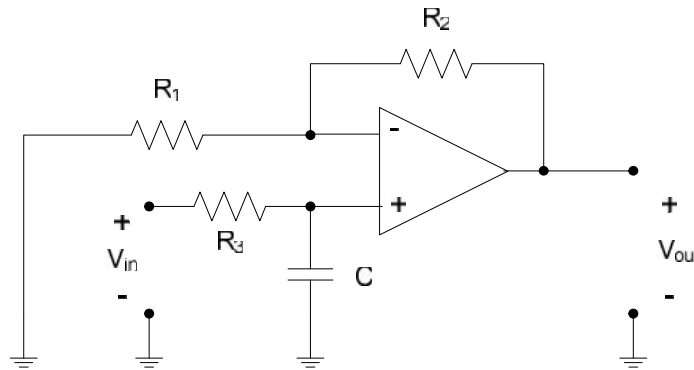
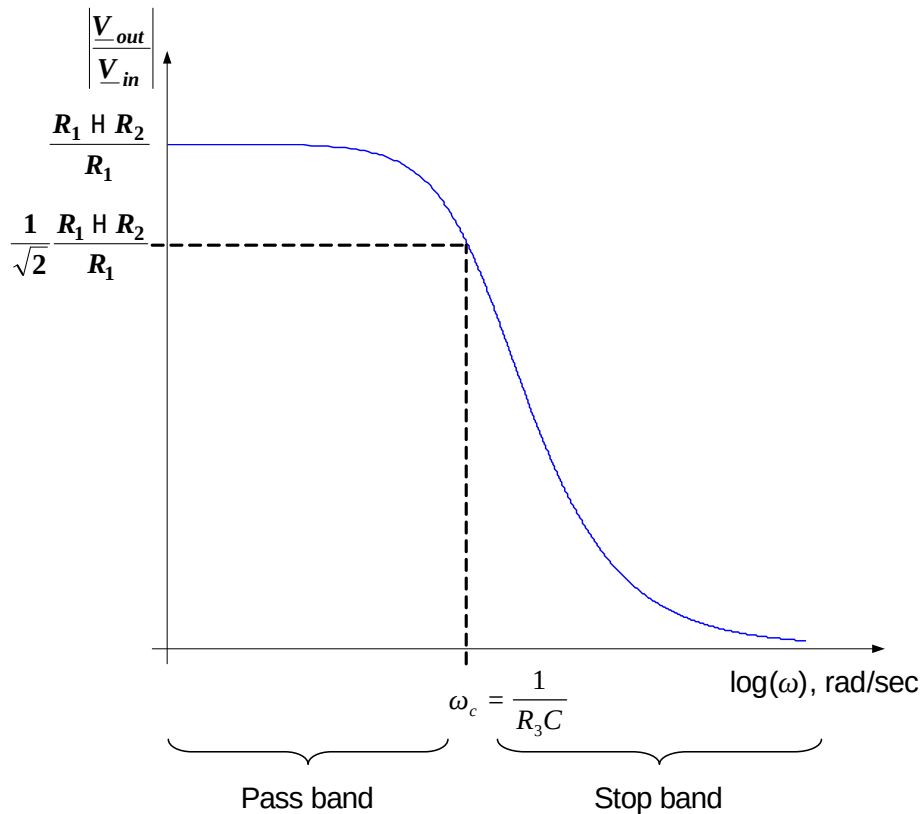

Figure 2. Signal conditioning circuit.
Figure 3. Signal conditioning circuit amplitude response.
We will implement the above operations using the circuit shown in Figure 2. The frequency response of the circuit shown in Figure 2 is:
The amplitude response of the overall signal conditioning circuit of Figure 2 is shown in Figure 3. The low frequency gain (as $\omega \rightarrow 0$) of the circuit is $\frac{R_1 + R_2}{R_1}$, and the filter's output goes to zero at high frequencies (as $\omega \rightarrow \infty$). The *cutoff frequency* of the circuit indicates at what frequency the filter's output begins to decrease rapidly; for our circuit, the cutoff frequency is $\omega_c = 1/R_3 C$. The DC gain can be used to amplify the output of the piezoelectric sensor in the pass band, while the stop band can be used to eliminate the noise in the signal at high frequencies. (Signals entering the circuit with frequencies below the cutoff frequency – the pass band – are amplified; signals entering the circuit with frequencies above the cutoff frequency – the stop band – are attenuated.)
- ANALYSIS** a. Using equation (1) as your starting point, show that the amplitude response of the circuit of Figure 2 is as provided in equation (2)
- ANALYSIS** b. Using equation (1) as your starting point, determine the phase response of the circuit of Figure (3)
- ANALYSIS** c. Determine the cutoff frequency of the circuit of Figure 2. What is the gain and phase of the circuit at the cutoff frequency?
- ANALYSIS** a. Design a circuit like that shown in Figure 2 (e.g. choose R_1 , R_2 , R_3 and C) to provide a DC gain of approximately two and a cutoff frequency of roughly twice the sensor's dominant vibration frequency as determined in Part I of this lab assignment.
- a. Apply the sensor output voltage to the input terminals of the signal conditioning circuit, $V_{IN}(t)$. Using the oscilloscope, measure both $V_{in}(t)$ from the sensor and the signal conditioning unit's output voltage, $V_{OUT}(t)$ in Figure 2. "Flick" the sensor and record an image of the oscilloscope window, showing the voltages $V_{IN}(t)$ and $V_{OUT}(t)$. Comment on your results relative to your expectations.